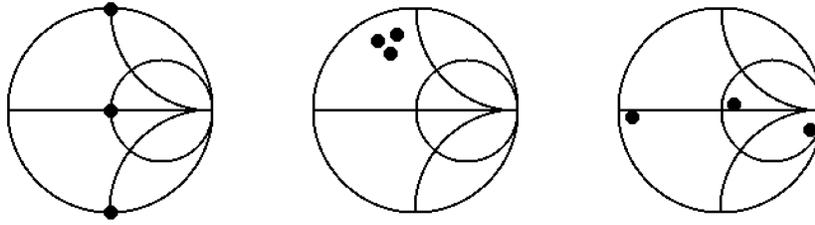

Figure 4: Smith charts each showing known standards
2. Figure 4 shows Smith charts each showing known standards. Which group of standards can be used to calibrate a network analyzer?